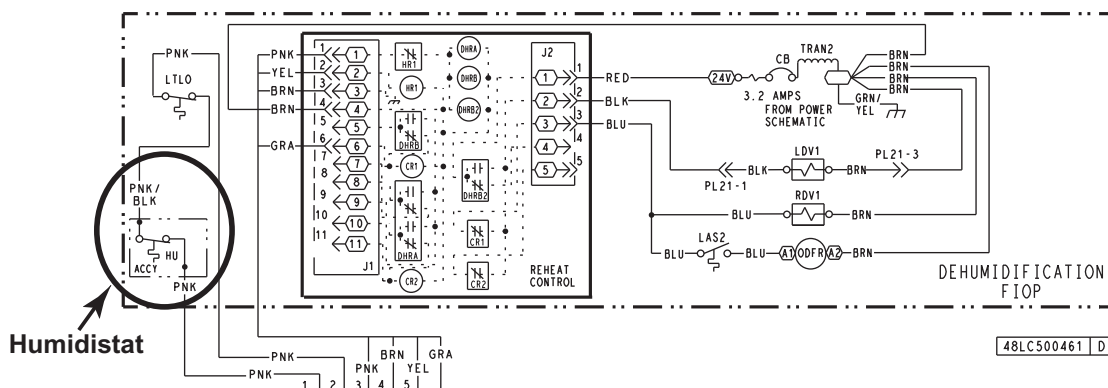

Fig. 46 — Typical Humidi-MiZer Adaptive Dehumidification System Humidistat Wiring
3. Use wire nuts to connect humidistat cable to the leads in the low-voltage wiring (as shown in Fig. 46), connecting PNK to PNK and PNK/BLK to PNK/BLK.
In Low Ambient RTU conditions when the temperature is between 55°F (13°C) and 40°F (4°C), the Low Ambient Switch (LAS) will be active and the outdoor fans will run to the pre-set factory outdoor-fan speed. When the temperature is greater than 65°F (18°C), the Low Ambient Switch will deactivate and the outdoor fans will run in the standard cooling mode. If the Outdoor Fan Select Switch (see Fig. 46) is in the ON position, the outdoor fans will run in the Fan Cycle Speed Mode (FCS) set to 250 rpm. If the Outdoor Fan Select Switch is in the OFF position, the outdoor fans will run in the Minimum Fan Speed Mode (MIN) set to 160 rpm regardless of the cooling demand.